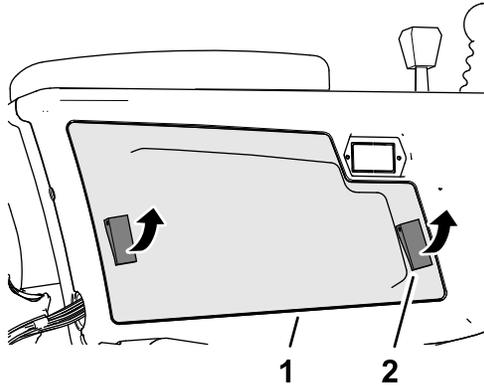

Figure 87
2. Open the 2 latches that secure control-arm cover to the control arm, and remove the cover (Figure 87).